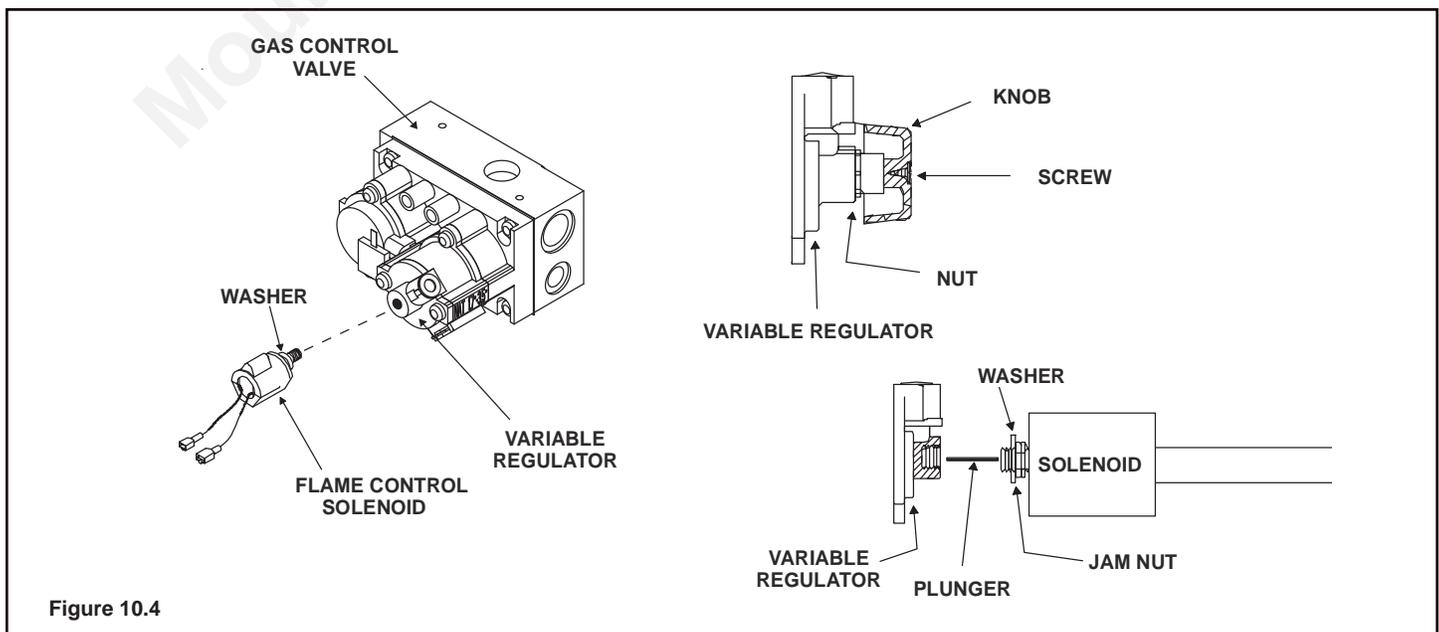

Figure 10.4
4. Place washer on flame control solenoid (see Figure 10.4).
5. Insert the blue plunger into the flame control solenoid (see Figure 10.4).